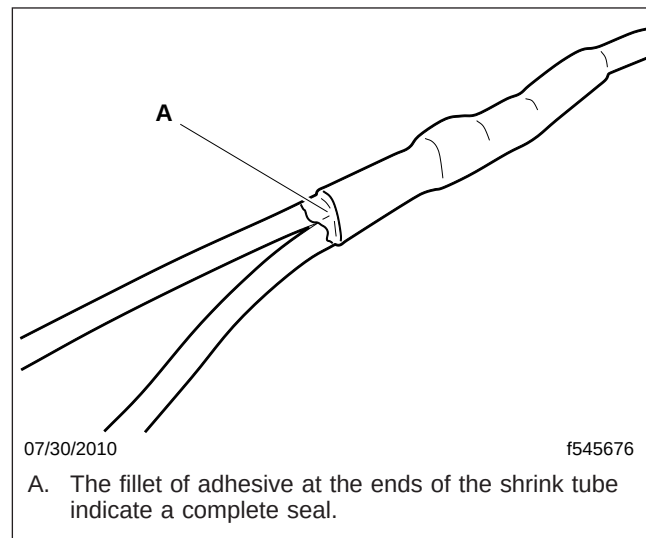

Fig. 5, Completed Three-Wire Tap Splice
7. A three-wire tap splice can be made following the same procedure. Use a connector that is large enough to fit all the strands of the wires. See Fig. 5 for an example of the completed splice.